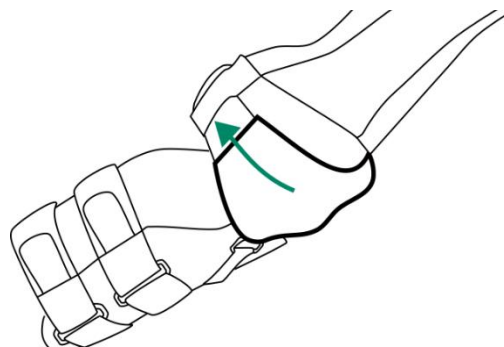

Figure 5
3. Close the Velcro and slide the triangular sections over the strap to cover the Velcro (Fig. 5).